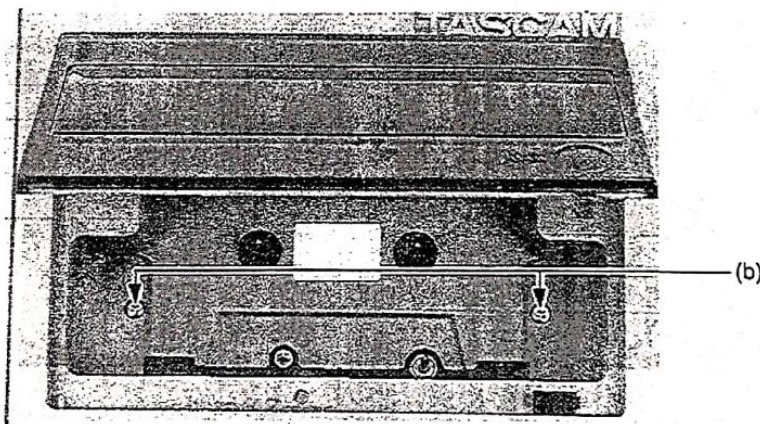

Fig. 2-2 図2-2
2. Refer to Figure 2-2 and remove the two "b" screws.
2. 図2-2 のネジ(b) 2本を外す。